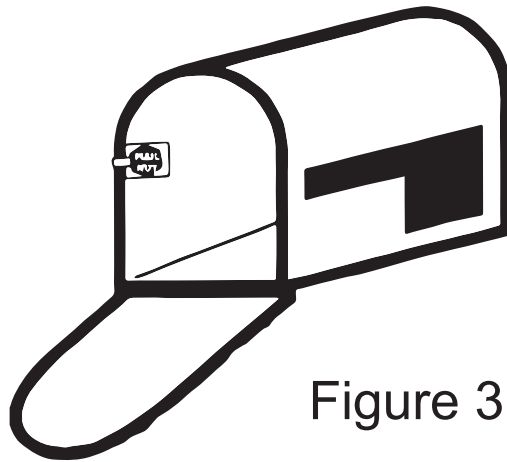

Figure 3
3). **Do not REMOVE Vinyl Protective Magnet Cover from Cylinder Magnet on MAILNUT 3X. Grip MAILNUT 3X™ firmly with fingers on outside edges while attaching it to mounting pads.** MAILNUT 3X™ magnet will have very strong attraction to steel mailboxes and other steel objects. **Then Carefully** attach MAILNUT 3X™ to the 3M™ Dual Lock™ mounting pads so the tip of magnet is positioned inside the mailbox at a point where it will contact the backside of the mailbox door when the door is fully closed. Normally, this is at the very outer edge of the side wall of the mailbox. Press the back side of the MAILNUT 3X firmly onto mounting pads so it **interlocks tightly** with the 3M™ Dual Lock™ mounting pads on the inside wall of your mailbox. (See Figure 3 on the back side of this page)